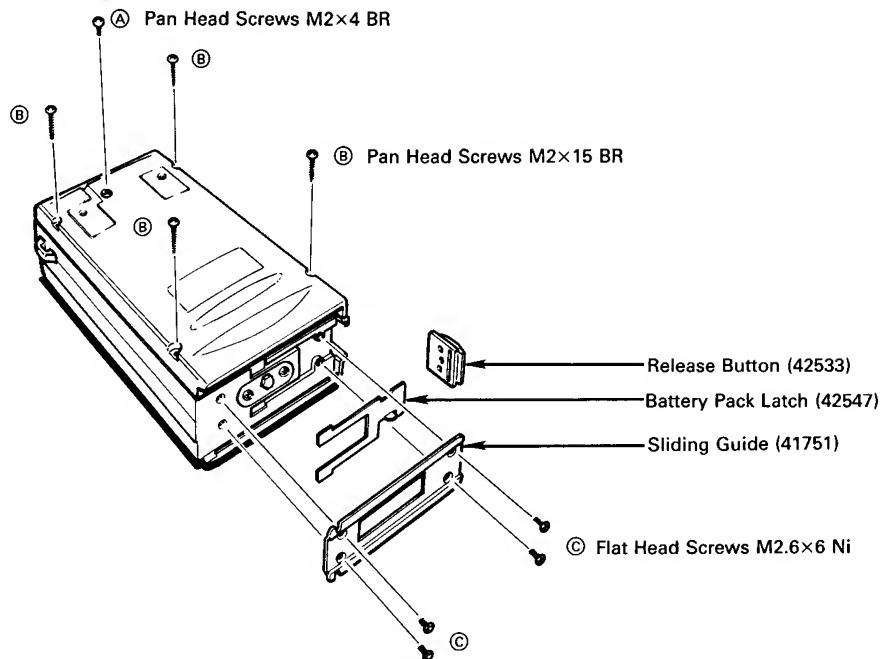

Fig. 5-1-1
2. Remove screw Ⓐ, four screws Ⓑ on the REAR PANEL and four screws Ⓒ on the bottom as shown in Fig. 5-1-1.